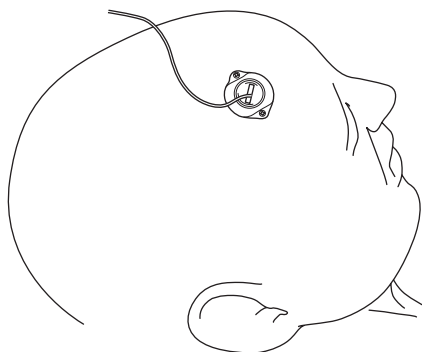

Figure 30. The lead anchored with the Stimloc Burr Hole Cover.
11. Route the lead into the Stimloc base exit slot and snap the Stimloc cap onto the base (Figure 30).